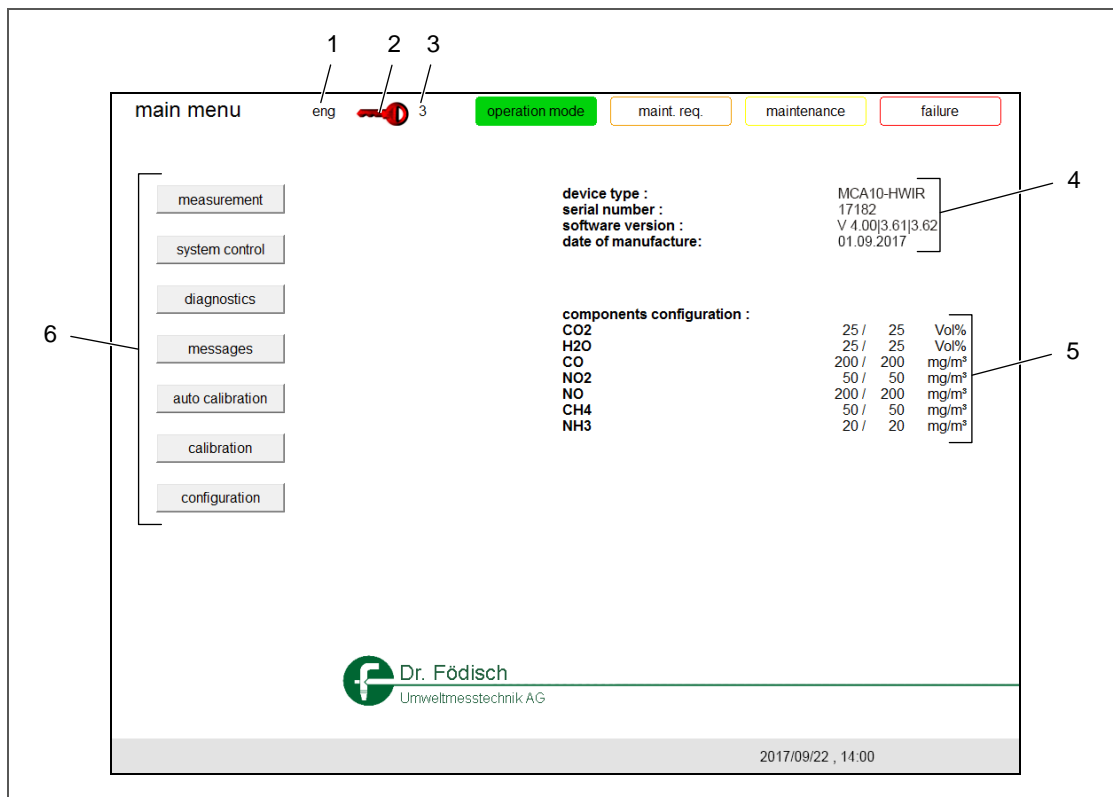

Fig. 25: Main menu
In the field "language selection" (1, Fig. 25) the acronym of the selected language is displayed.
In the field (3, Fig. 25) the currently selected password level is displayed. By clicking the key symbol (2) the respective password can be input.
In the area of device information (4, Fig. 25) device type, serial number, software version, date of manufacture and depending on configuration the next service date (settable in menu: configuration – system – general) are displayed.
In the area of component configuration (5, Fig. 25) the measuring ranges of all measurable components are displayed.
The menu buttons (6, Fig. 25) displayed in the main menu serve the navigation between the particular menus.
2. Click the acronym of the displayed language (1, Fig. 25).
2. Click the key symbol (2, Fig. 25).